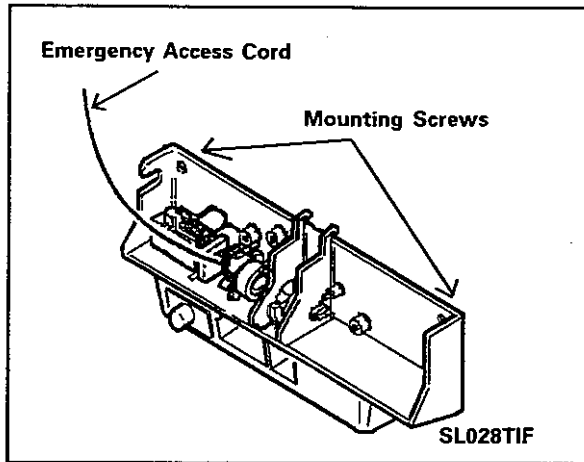

Figure 5-13
5. Remove two 5/16" hex-head screws securing the switch support to the metal shroud support (Figure 5-13).